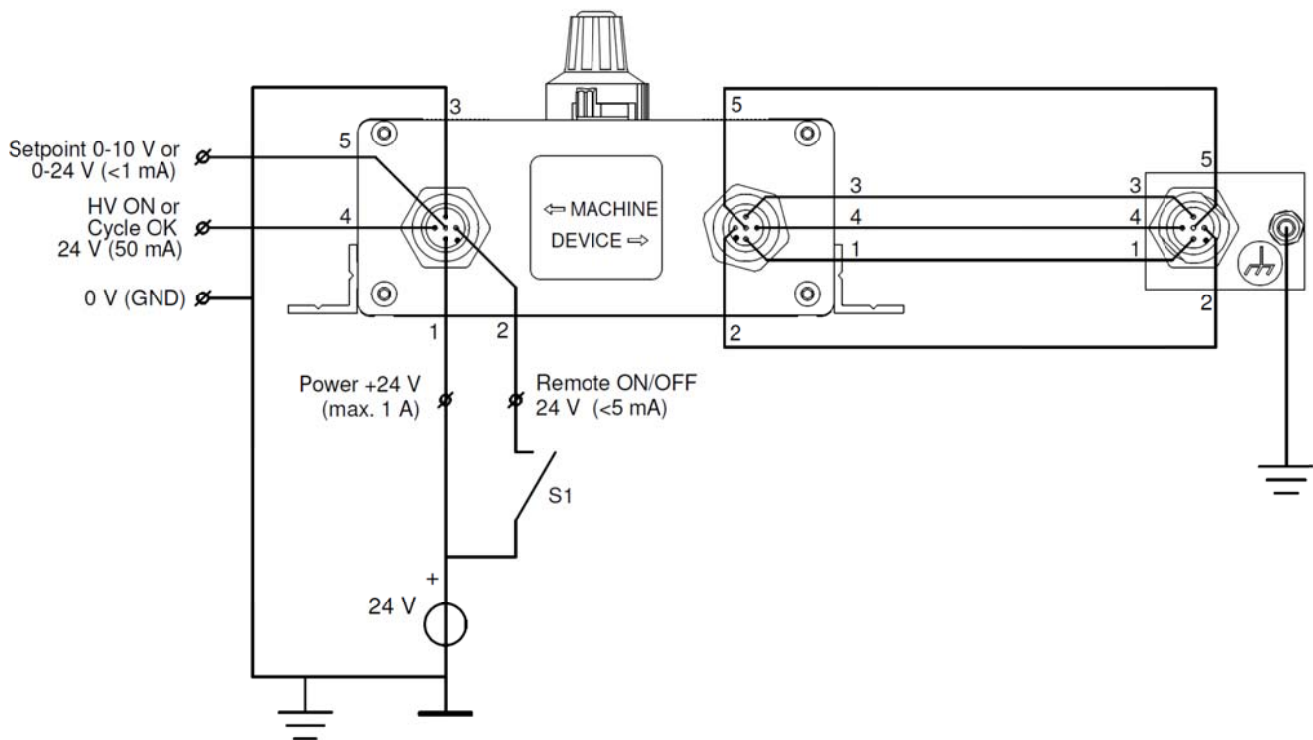

Fig. 3, External Control Unit - CMM Easy/CM Tiny connections.
- See fig. 3 and Table 1 for the connections of the Control Unit and the CMM Easy/CM Tiny.